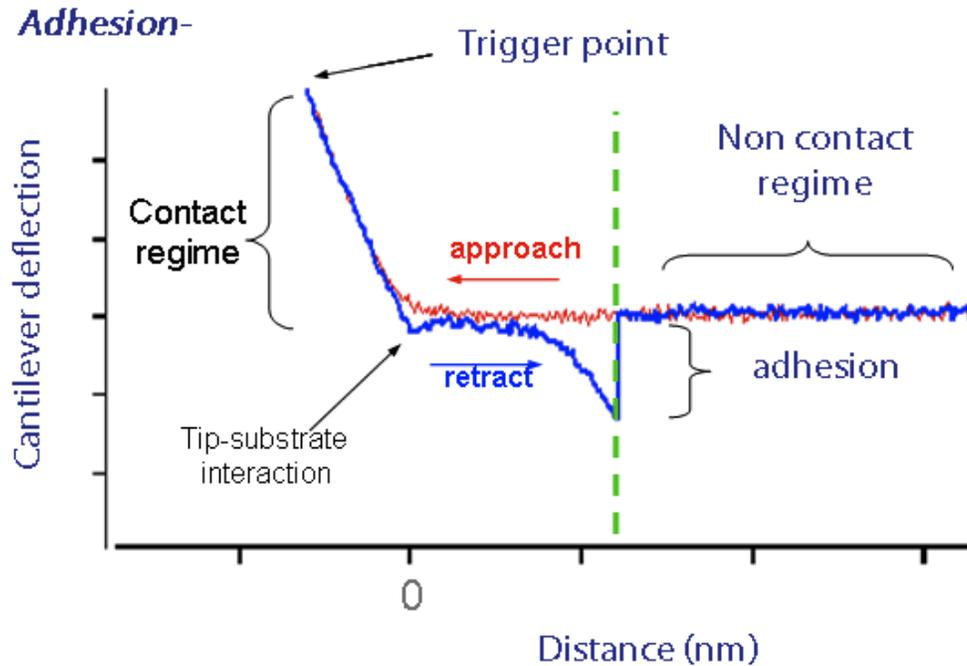

Figure 18.2.: Adhesion force spectroscopy classification. Pulling can yield adhesion forces.
- A pulling event where the tip interacts with the surface and some adhesion dissociation event between the tip and surface is measured on the retract cycle (Figure 18.2 on page 230).